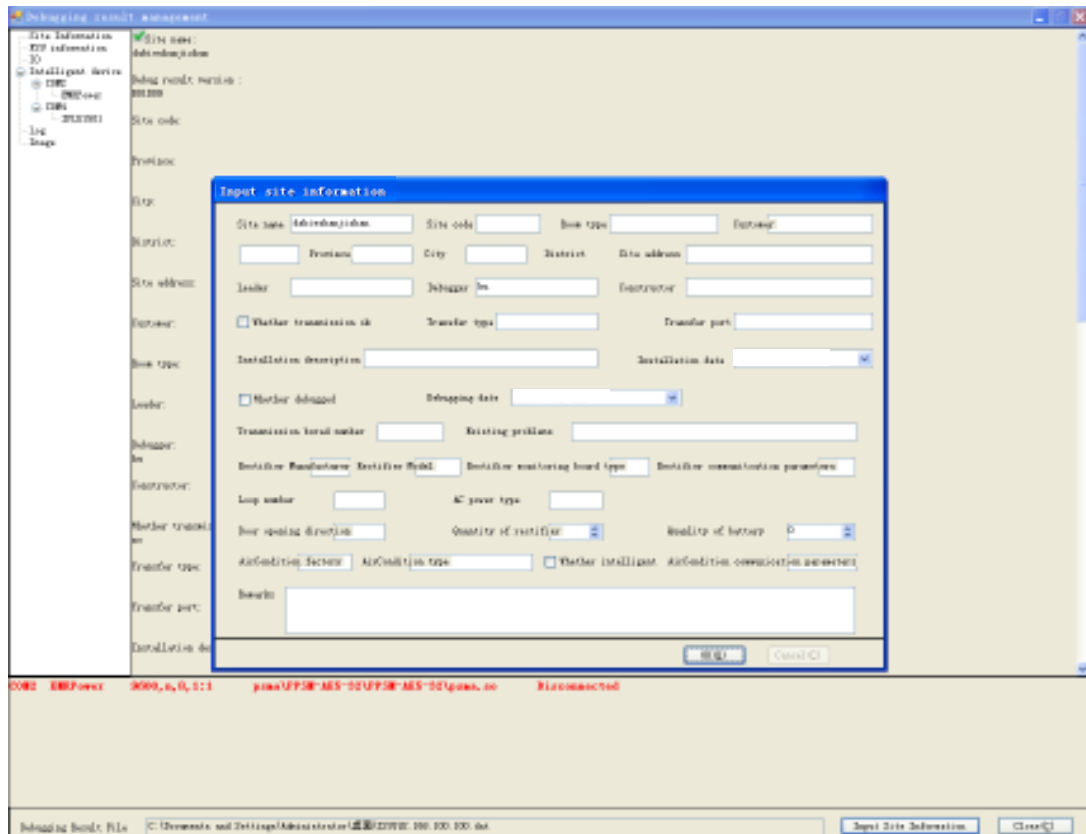

Figure 4-19 Viewing debugging result
12. Click the **Open...** button, select the file path and name, and click **OK (O)**.
13. Click the **Debug-result** button at the bottom of the primary window, and the window shown in Figure 4-19 pops up, displaying the saved debugging result information.
- c. Modifying site information: Click the **Input Site Information** button at the right bottom of the window, and the window shown in Figure 4-19 appears; input all site information and click the **OK (O)** button.